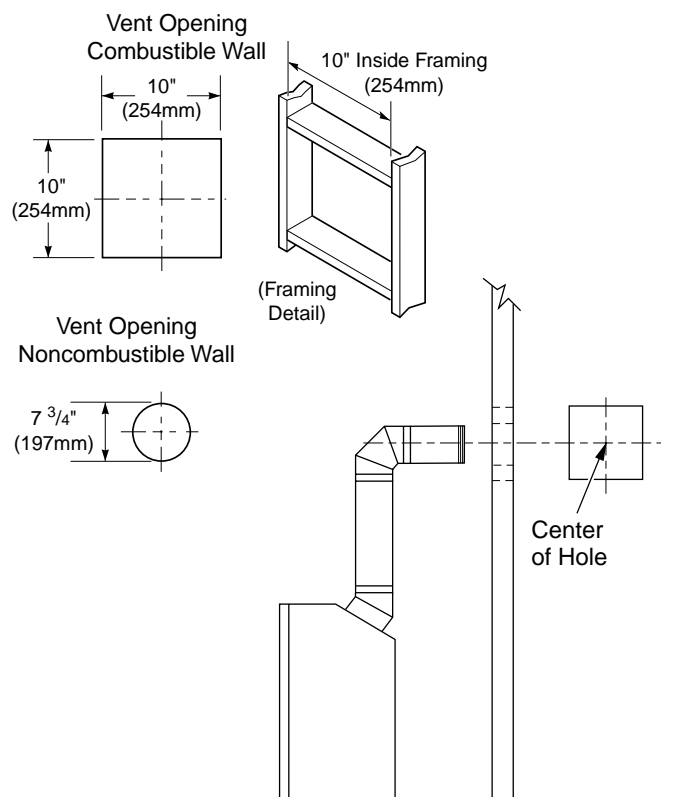
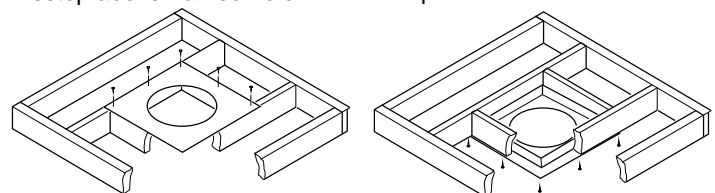

Figure 9 - Vent Opening Requirements
Figure 20 - Installing Firestop
5. Carefully determine the location where the vent pipe assembly will penetrate the outside wall. The center of the hole should line up with the center-line of the horizontal vent pipe. Mark the wall for a 10" x 10" square hole. Cut and frame the square hole in the exterior wall where the vent will be terminated. If the wall being penetrated is constructed of noncombustible material, such as masonry block or concrete, a 7 3/4" hole with zero clearance is acceptable (see Figure 9).
1. Cut a 10" square hole in the ceiling using the locating hole as a center point. The opening should be framed to 10"x10" (254mm x 254mm) inside dimensions, as shown in Figure 9 on page 8 using framing lumber the same size as the ceiling joists. If the area above the ceiling is an insulated ceiling or a room, nail firestop from the top side. This prevents loose insulation from falling into the required clearance space. Otherwise, install firestop below the framed hole. The firestop should be installed with no less than three nails per side (see Figure 20).
3. Cut a hole in the roof using the locating hole as a center point. (Cover any exposed open vent pipes before cutting hole in roof.) The 10"x10" hole must be measured on the horizontal; actual length may be larger depending on the pitch of the roof. There must be a 1" clearance from the vent pipe to combustible materials. Frame the opening as shown in Figure 9, page 8.